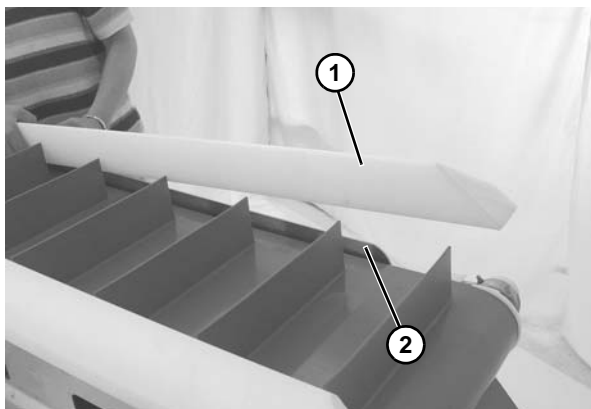

Figure 30
1. Position the guide (Figure 30, item 1) so that the flat surface is facing the belt and then slide the guide onto the frame rail (Figure 30, item 2).